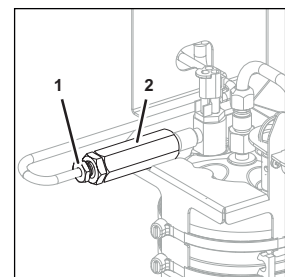

Fig. 75
2. Disconnect the fitting (Fig. 75/1) from the inlet pipe of the non-return valve (Fig. 75/2).
3. Remove the non-return valve (Fig. 75/2) from the carbonator.
5. Position the new non-return valve (Fig. 75/2) on the carbonator.
6. Attach the non-return valve (Fig. 75/2) to the carbonator.
7. Attach the fitting (Fig. 75/1) of the inlet pipe to the non-return valve (Fig. 75/2).